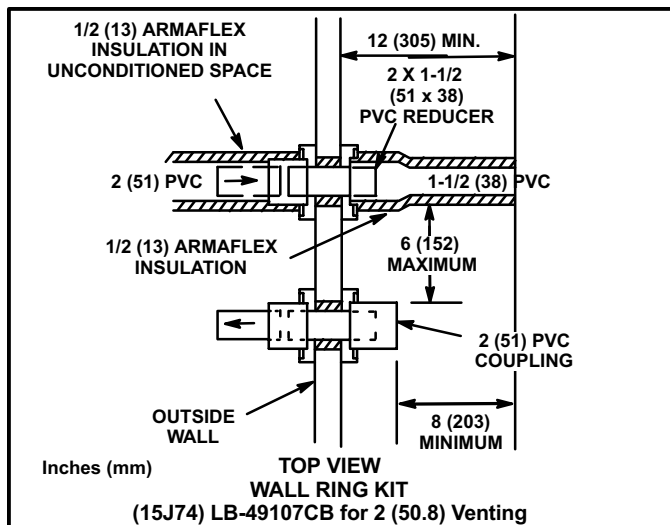

FIGURE 8
- 6 - On field-supplied terminations for side wall exits, exhaust piping should extend a maximum of 12 inches (305 mm) beyond the outside wall. Intake piping should be as short as possible. See figure 8.